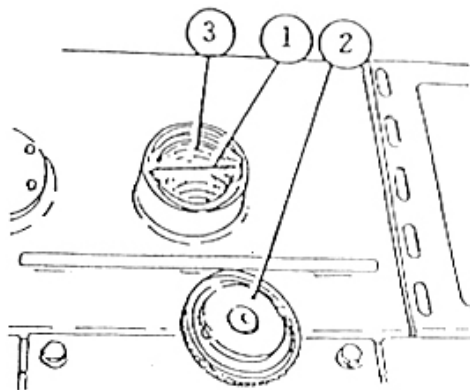

Fig.48
The level of fuel is checked with dipstick in the filter socker (Fig 48/1)
①When filling up the tank, don't allow to smoke and open fire. The engine would be stopped.
②The tank should always be filled completely in order to avoid the condensation of water.
③To fill up the tank, open the cap (Fig.48/2) and make sure that the screen(Fig.48/3) is in the filling oil hole.
④After filling up, close cap. Keep tank always closed in order to avoid contamination of the fuel.
①The tank cap (Fig.48/2) and the screen (Fig.48/3) should be thoroughly cleaned with kerosene from time to time.
②Unscrew the screw cap on the bottom side of the tank for some turns and drain off some litres of fuel into a container, retighten the screw cap. Pay attention to normal seal.